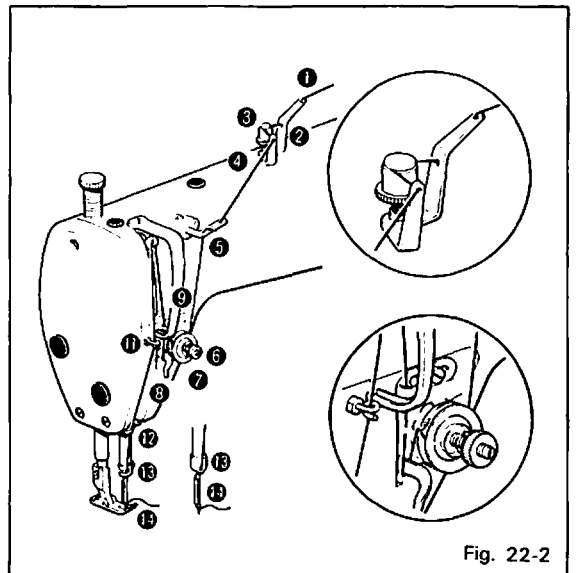

Fig. 22-2
- I) On the synthetic threads, if you will loosen the tension, you may encounter the thread breakage at the beginning. (Fig. 22-2)